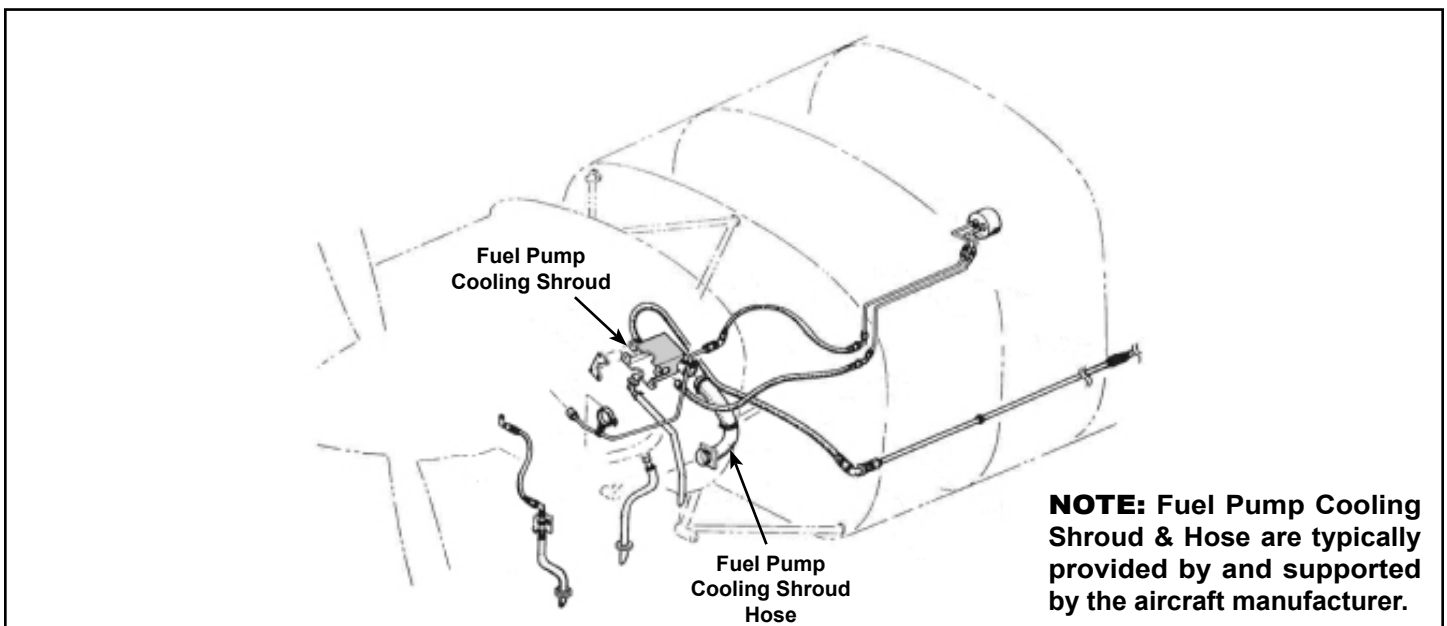
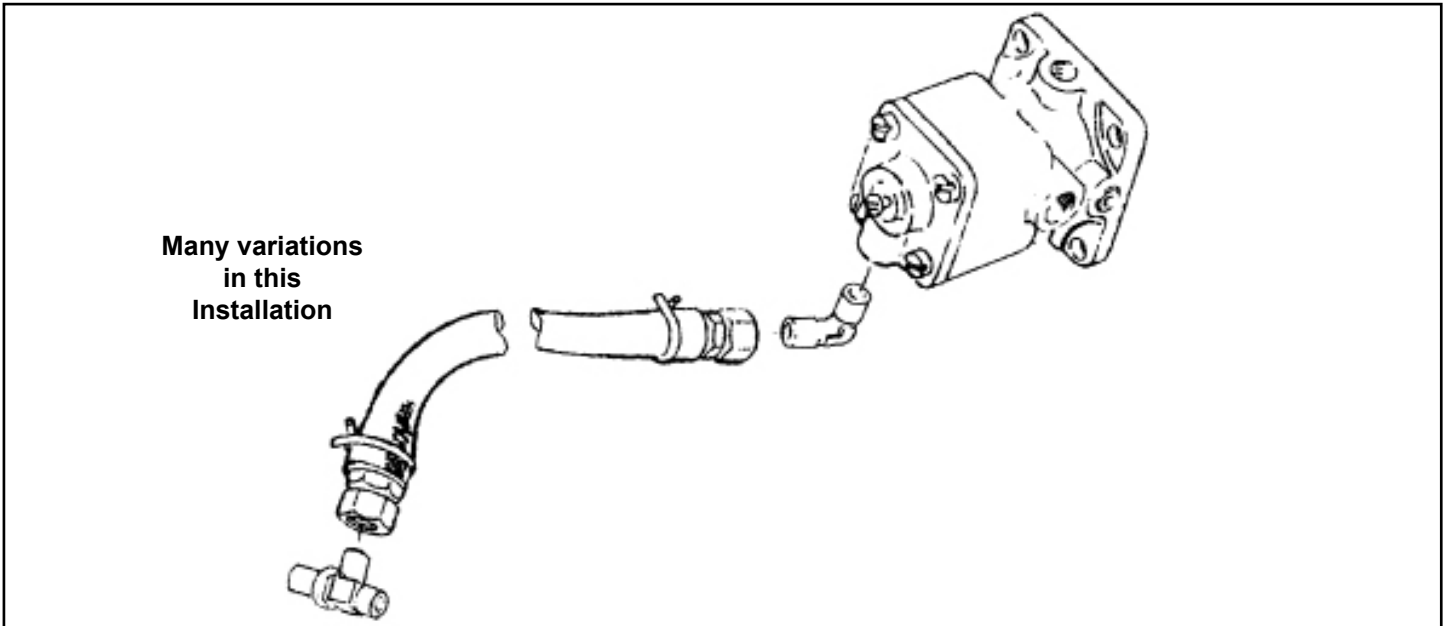

Figure 4 - Typical Cooling Shroud Installation
Figure 5 - Typical HET 201F Fuel Pump Plumbed to Upper Deck Reference
- (b) Inspection of the upper deck reference line requires that the line be disconnected and the inside of the fitting be inspected for fuel or blue dye stains. Refer to Fig. 5 and 6.
- (2) Inspection for fuel or blue dye stains may require use of a "Q" tip cotton swab or similar device to check for the presence of fuel or blue dye.
- (3) If fuel or blue dye stains ARE NOT found:
- (c) If removed, reinstall the fuel pump cooling shroud and air hose (if applicable) in accordance with the latest engine/airframe service instructions or maintenance manual and continue to 3.D.(1), Return to Service. Refer to Fig. 4.
- (4) If fuel or blue dye stains ARE found, continue to 3.C., Corrective Action.
C. Corrective Action - Choose (1), (2), or (3):